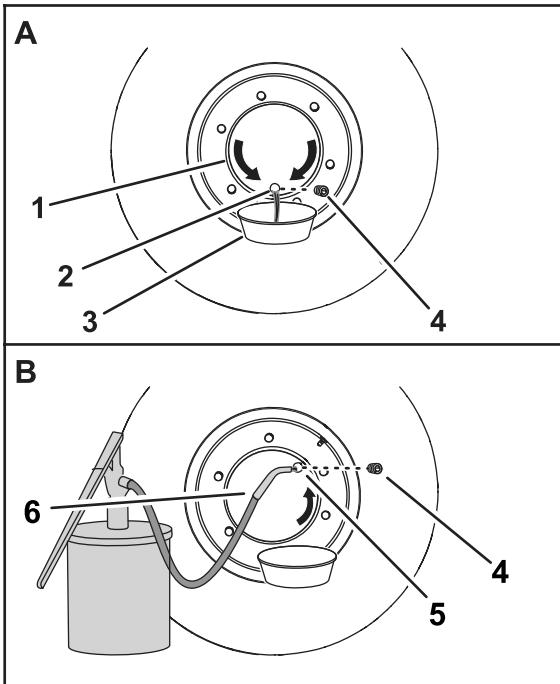

Figure 96
3. Move the machine forward or backward until the plug is at the 6 o'clock position (Figure 96).
4. Place a drain pan under the oil port of the wheel hub (Figure 96).
5. Remove the plug and drain the oil from the planetary (Figure 96).
7. Move the machine forward or backward until the plug is either at the 2 o'clock (Figure 96) or the 10 o'clock position.